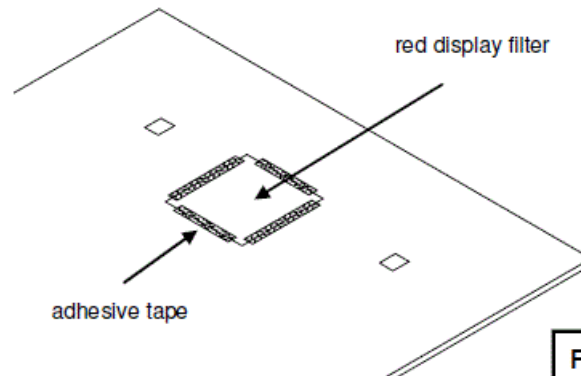

Fig. 5.0
- Fix the red display filter using a piece of transparent adhesive tape (four sides) (fig. 5.0)